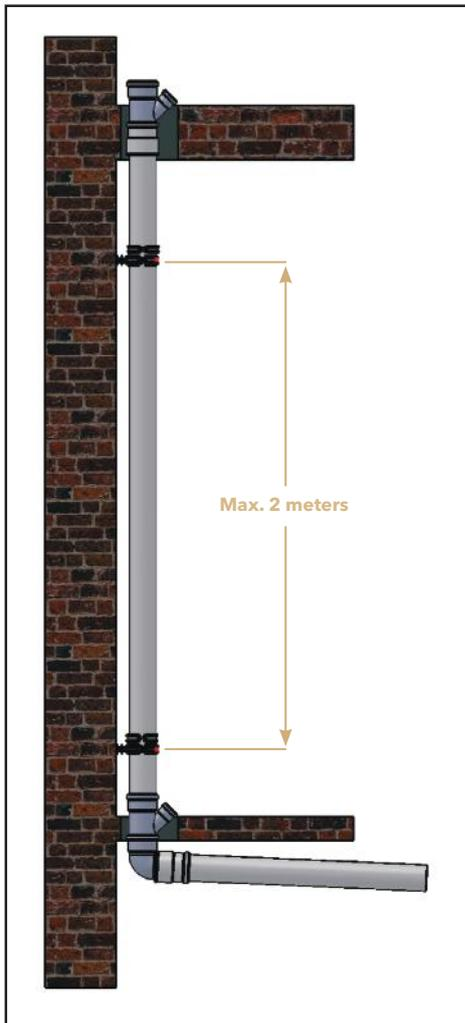

Figure 6
- For the vertical pipes, the distance between the pipe clamps should be about 1.5 meters. The maximum distance shouldn't exceed 2 meters. **(Figure 6)**